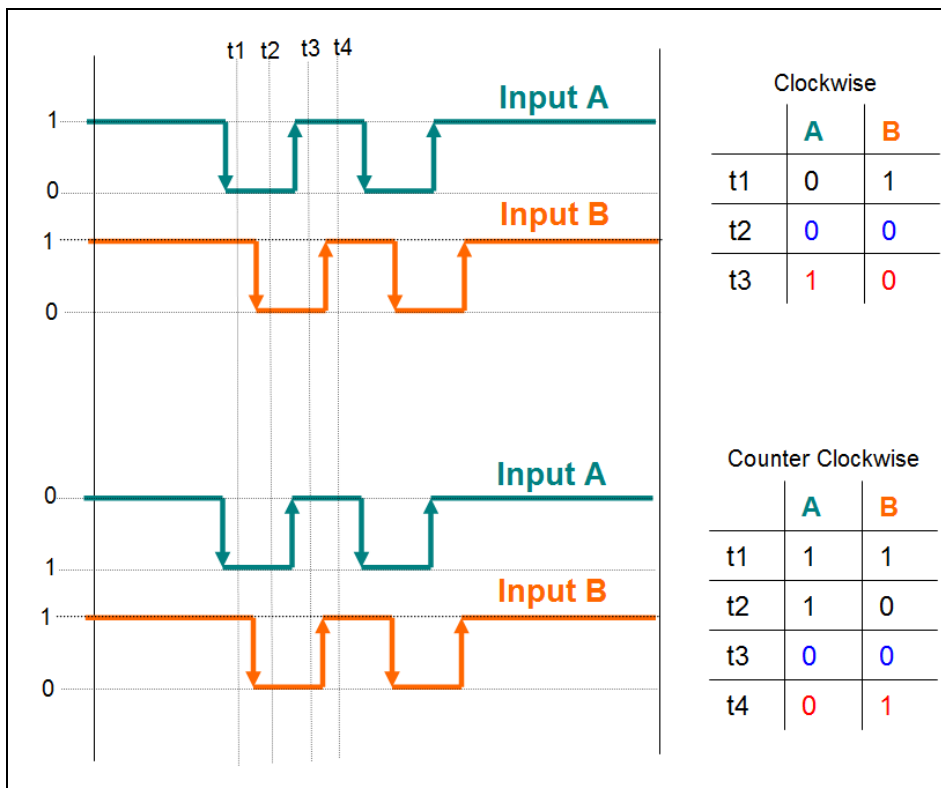

Figure 27: Polarity change of input signal "A" inverts the counting direction
- By changing the polarity of signal "A" for the quadrant counting mode (Figure 27) results in a change of counting direction.